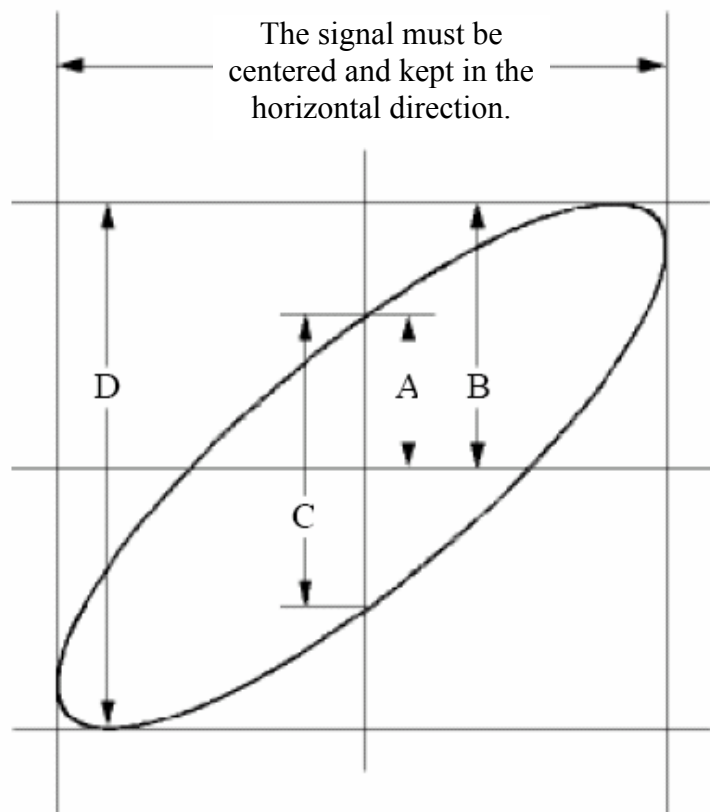

Fig.70 Lissajous Graph
9. With the elliptical oscillogram method adopted, observe and calculate the phase difference (see Fig.70).